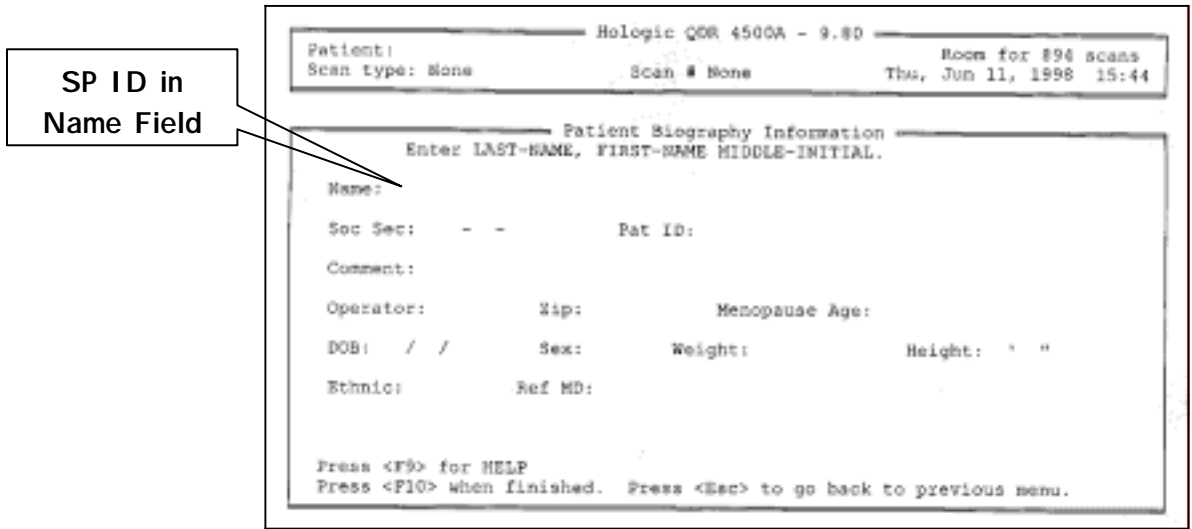

Figure 3-6. Patient biography information
- Pressing 'Insert' brings you to the patient biography information screen. See Figure 3-6.